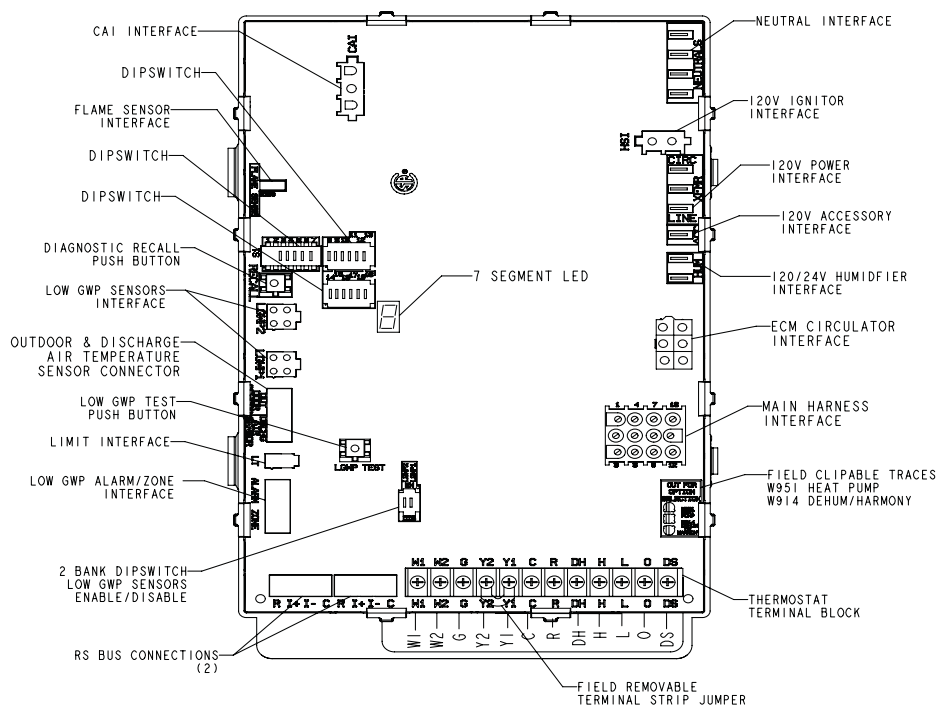

Figure 4. Integrated Control
Units are equipped with a variable capacity integrated control. The control can operate with a non-communicating conventional single or two-stage thermostat. The system consists of an ignition / blower control (**Figure 4 and Figure 5**) with control pin designations (**Table 1 through Table 4**) and an ignitor. The control and ignitor work in combination to ensure furnace ignition and ignitor durability. The control provides gas ignition, safety checks and indoor blower control with two-stage gas heating. The furnace combustion air inducer, gas valve and indoor blower are controlled in response to various system inputs such as thermostat signal, pressure and limit switch signal and flame signal. The control features a seven-segment LED display, indicating furnace status (including indoor blower) and error codes. The LED flashes in single digits. For example, using the **Table 13** under CODE, an "E" followed by "2" followed by "5" followed by "0", the limit switch circuit is open. The control has a 120V humidifier and a 120V accessory terminal, both rated at (1) one amp each.
The control can be made to operate in three modes: variable capacity, three-stage timed or two-stage. The variable capacity and two-stage modes are only operational with a two-stage thermostat. The thermostat selection is made using dip switches one and / or two (**Figure 4**) and must be positioned for the particular application.